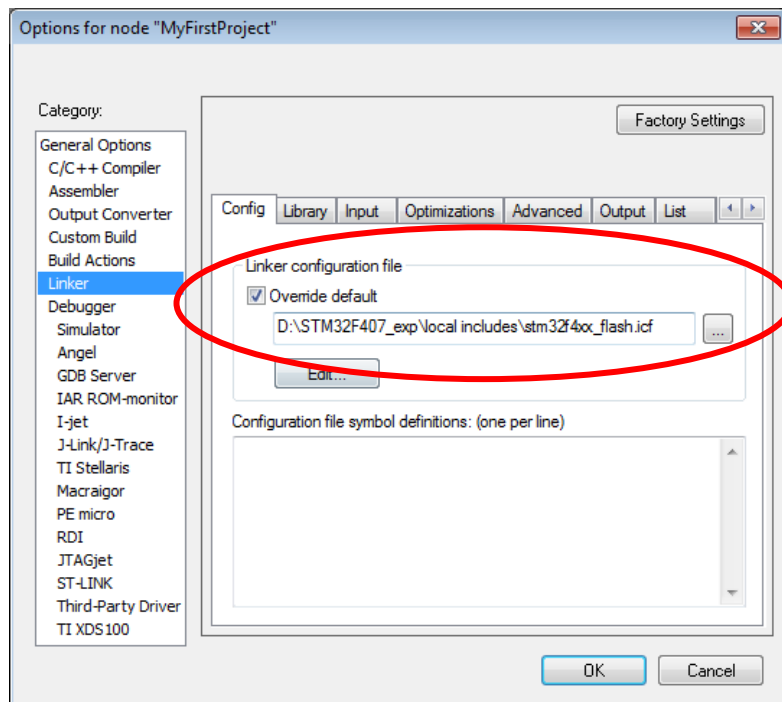

Figure 9: Define linker configuration file to select the location of machine code in the microcontroller
- The machine code can be prepared to run from flash memory, from RAM or from different sources, but the linker must know the desired location of machine code. We define it by selecting the appropriate linker configuration file “stm32f4xx_flash.icf” as shown in Fig. 9.